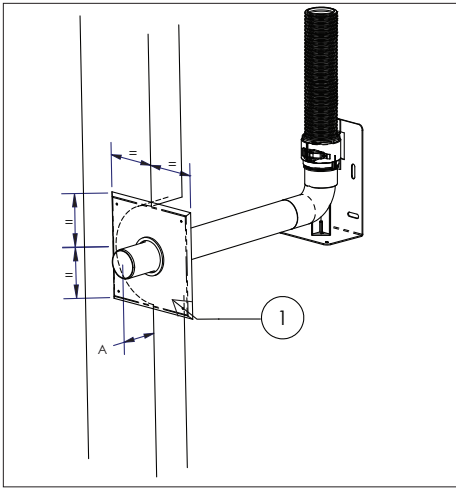

Figure 7, Mounting the Wall Plate
9. Mount the Wall Plate on the wall of the shaft (**Fig.7**). Pay attention to the correct slope of 3°. The pipe of the Support Elbow must be in the centre of the hole in the Wall Plate.
10. The Support Elbow can be shortened if required- For single wall, Dim A (**Fig.7**) must have a minimum length of 1.6" (40mm).